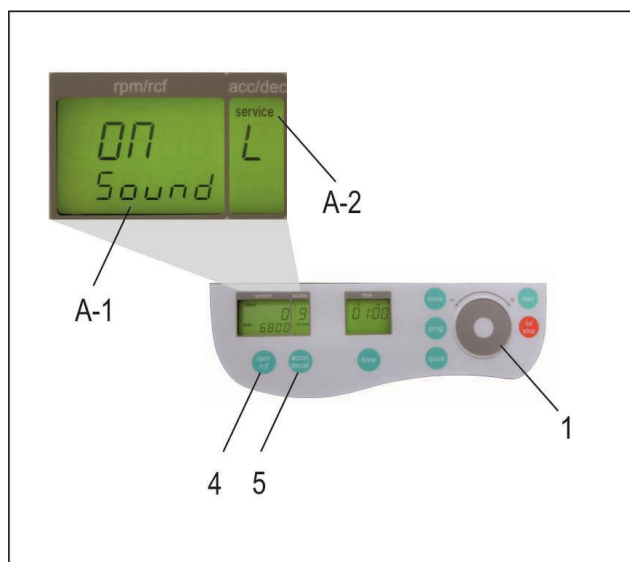

Figure 7
- All changed settings must be confirmed by the key, “start” (9). A confirmation screen will appear with the word, “store”, in the display “rpm/rcf” (A-1) - Only then the pre-selections are valid!
Proceed as illustrated, under point 3.2, to enter this program mode, press the key; "accel/decel" (5). In the display, "accel/decel" (A-2) flashes the word, "service". Select the letter, "L" with the control field (1). As a result, appearing in the display "rpm/rcf" (4), are the words, "On Sound". By pressing the key, "rpm/rcf" (4), the word "On" flashes, and the sound can be switched off with the control field (1), (see Figure 7).